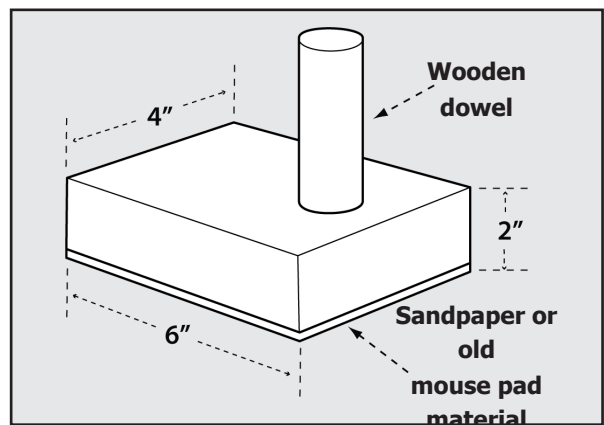

FIGURE 37
3. Glue a piece of rough or soft material such as sandpaper or rubber to the bottom of the block to grip the workpiece (old mouse pads work well). See Figure 37.